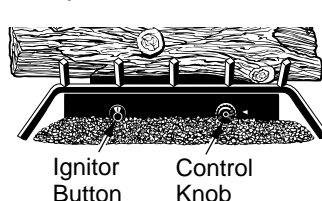

Figure 26 - Control Knob and Ignitor Button Location
4. Wait five (5) minutes to clear out any gas. Then smell for gas, including near the floor. If you smell gas, **STOP!** Follow "B" in the safety information, column 1. If you don't smell gas, go to the next step.
5. Turn control knob counterclockwise  to the PILOT position. Press in control knob for five (5) seconds (see Figure 26).